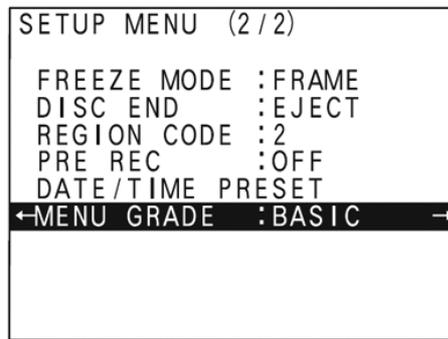

Figure 3-81 "Setup Menu" - [MENU GRADE] highlighted
- 5.) Press the \rightarrow (right) button. The "Setup Menu" appears, see Figure 3-81 on page 3-66.
- 9.) Press the **SET** button (C).